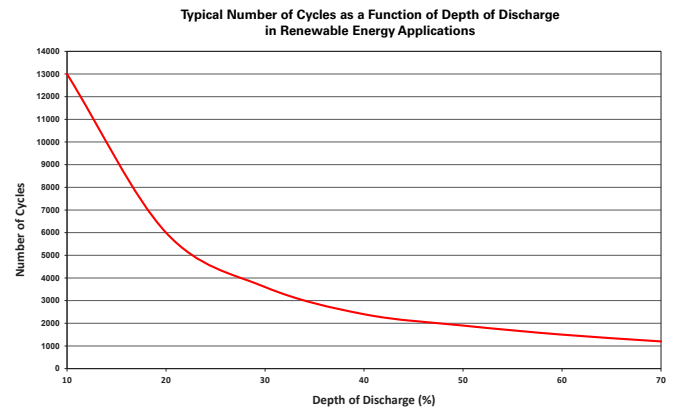

Figure 5
**Figure 5** below shows cycling capability of PowerSafe SBS XC+ products in typical renewable energy applications. Note, actual life obtained is dependent on site-specific conditions.
See Typical Number of Cycles as a Function of DoD graph, **Figure 5**, and an example of a PowerSafe® SBS XC+ battery at 25°C: